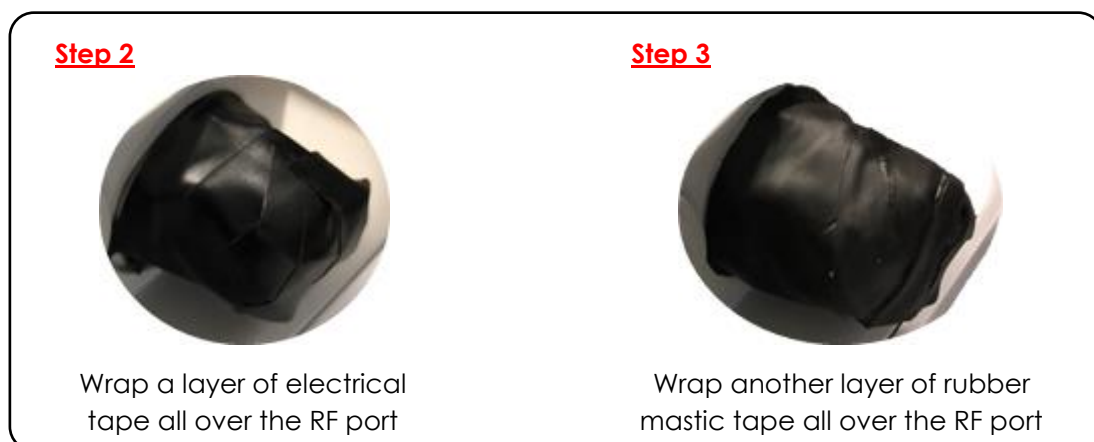

Figure 10-15 Waterproofing Unused RF Port
2. Start wrapping **a layer of electrical tape** from the port base. Overlap the tape to half-width. The tape should cover the entire RF port. See Figure 10-15.
3. Wrap **a layer of rubber mastic tape** from the port base. Overlap the tape to half-width. Take extra care to make sure that the entire RF port is tightly sealed. Press the tape edges together so that there are no gaps. Press the tape against the RF port body. See Figure 10-15.